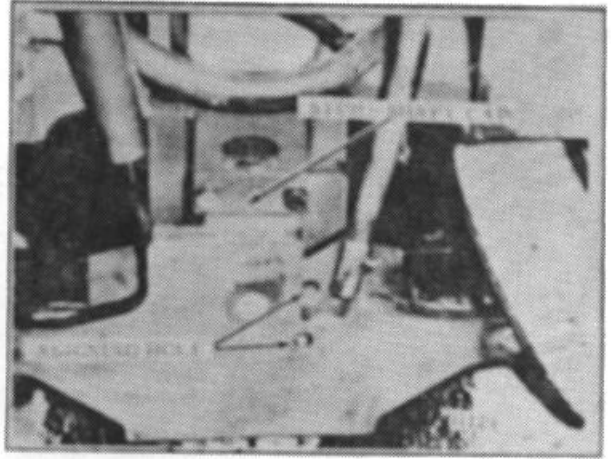

Figure 8.
2. Place a one-inch round bar in the centering holes of the axle and center steering arm. (Figs. 8 and 9)
3. Remove pitman arm. Place a one-inch bar in the centering holes of the axle and center steering arm. Then center the steering gear. (Figs. 8 and 9)